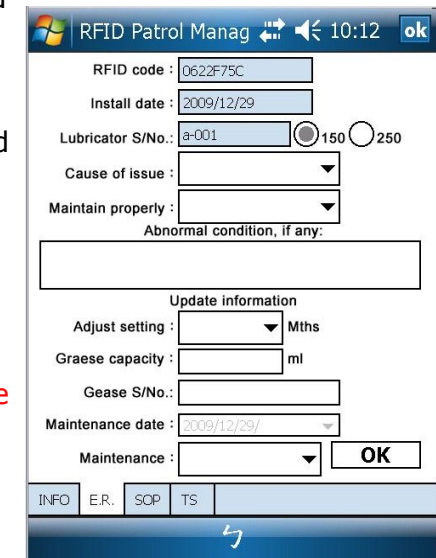

Fig. 9
- 3 If data was not matched, click **Error Report** button, the record table will appear (Fig.9) for you to write down the abnormality.